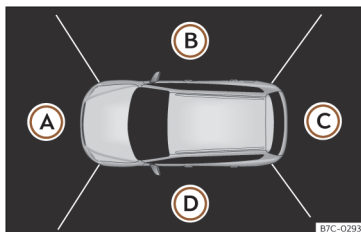

Fig. 186 Viewing the top view system: aerial view.
Function buttons **Fig. 186**:
The aerial view is generated by combining the images from all the cameras  **>>> Fig. 186**. The aerial view can be selected by pressing the *vehicle* in the area.
Select the corresponding view by pressing the different areas **>>> Fig. 186 (A) to (D)** of the aerial view or the reduced aerial view.
The infotainment system screen displays the aerial view >>> **Fig. 186**. If you press the  button when driving at over 15 km/h (9 mph), the image will not be displayed.